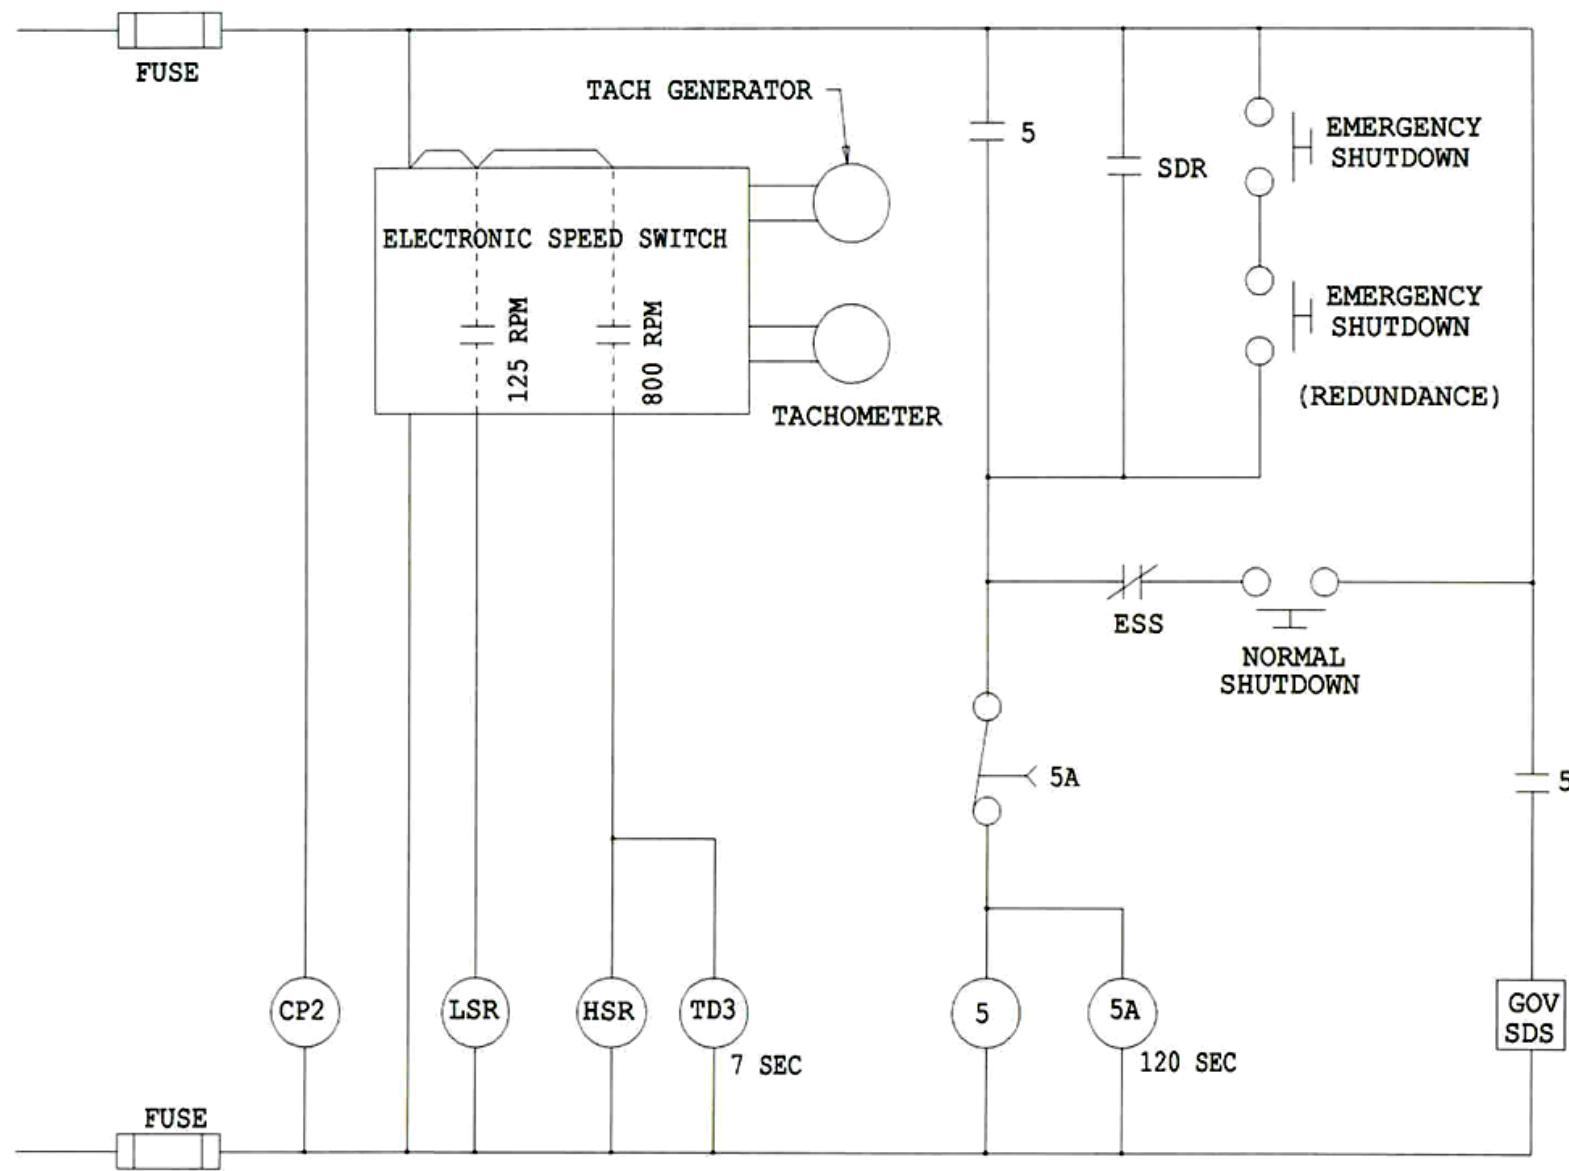

Figure 10-2 Speed Monitoring and Stop Circuitry
- Figure 10-2 shows the speed monitoring and stopping portion of the circuitry.